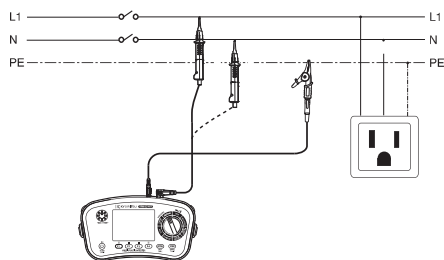
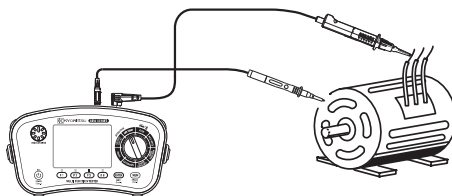
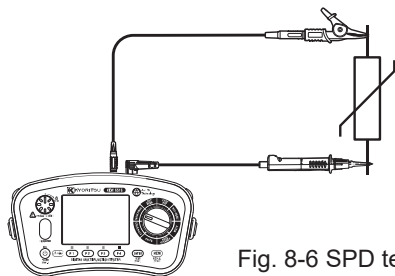

Fig. 8-4
Fig. 8-5
Fig. 8-6 SPD test Connection diagram
- (5) Measure the voltage to confirm that the circuit under test is not energized.
- (6) Connect the EARTH terminal of the instrument and the earth terminal of the circuit under test with the test lead.
- (7) Place the tip of test lead to the LINE terminal to the circuit under test and press the test switch or remote-control switch. (Fig. 8-4, Fig. 8-5, Fig. 8-6)